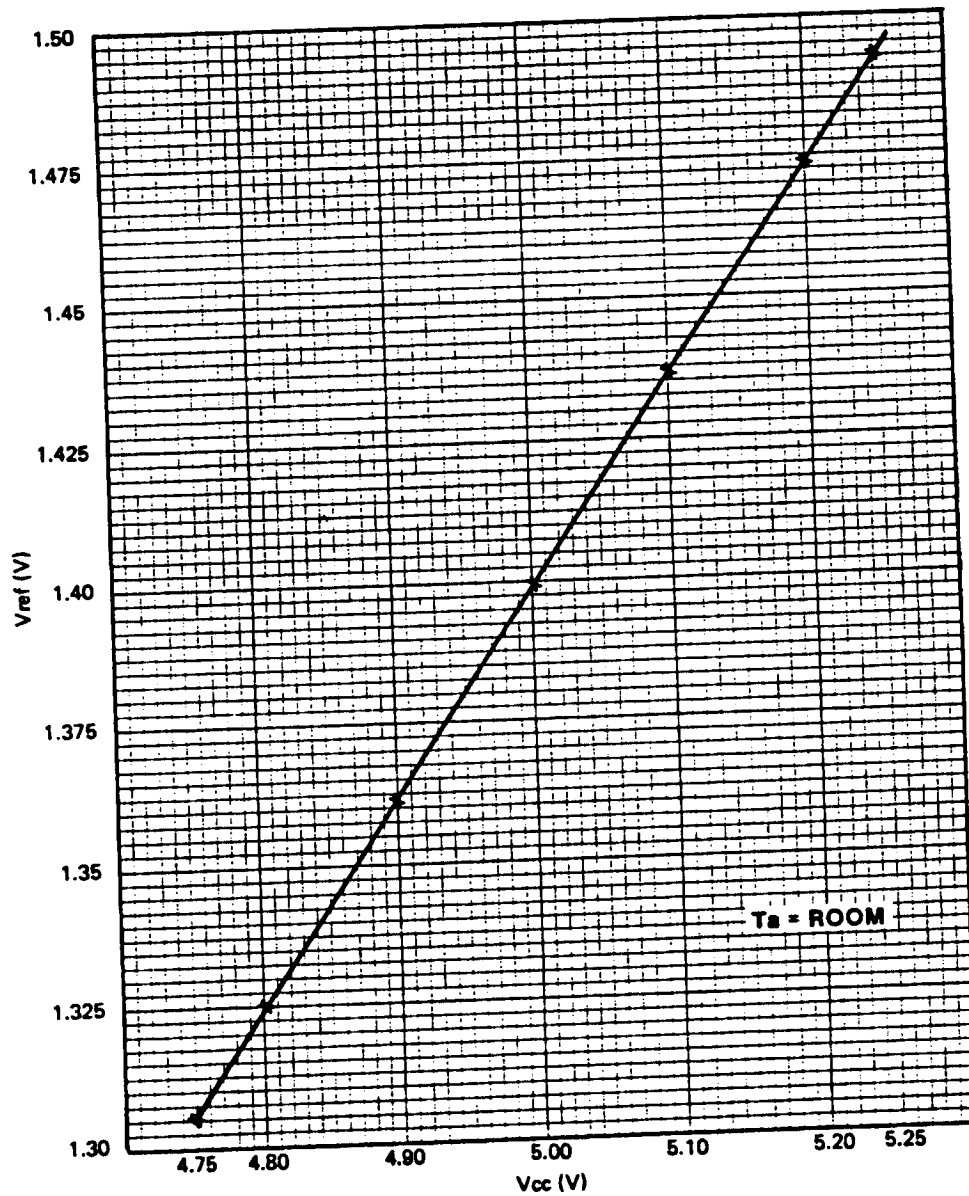

Figure 5-1. Data Probe V_{cc} — V_{ref} Graph
- c. Connect the positive test lead to U1(5). Compare this voltage with the V_{ref} voltage corresponding to the V_{CC} (step b) on Figure 5-1.
Figure 5-1 is a graph relating the U1 pin 5 voltage to U1 pin 7 voltage.